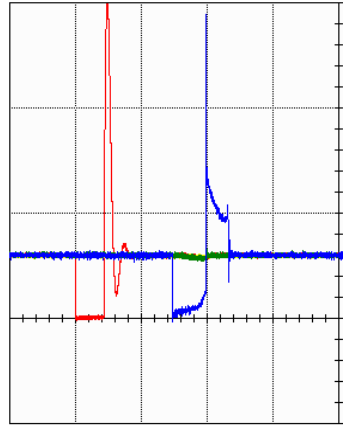

Figure 4.42
- *Half grid*: This mode is suited for a more precise analysis of positive signals as it has it's positive part doubled and the negative part not visible (Figure 4.42). If there is more than one window displayed this mode is common for all windows.